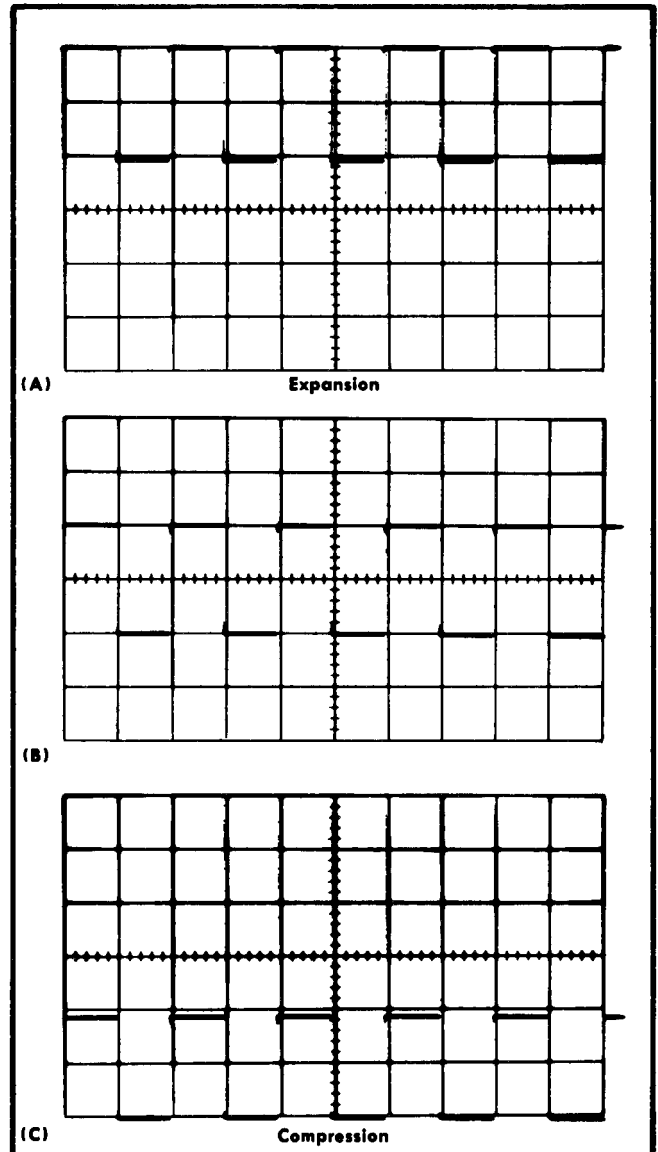

Fig. 5-4. Typical CRT display showing acceptable compression and expansion. (A) Expansion, (B) correct deflection at center of graticule, (C) compression.
- g. CHECK-Compression or expansion 0.15 divisions or less (see Fig. 5-4).
- l. CHECK-Compression or expansion 0.15 division or less (see Fig. 5-4).
n. CHECK-Compression or expansion 0.15 division or less (see Fig. 5-4).